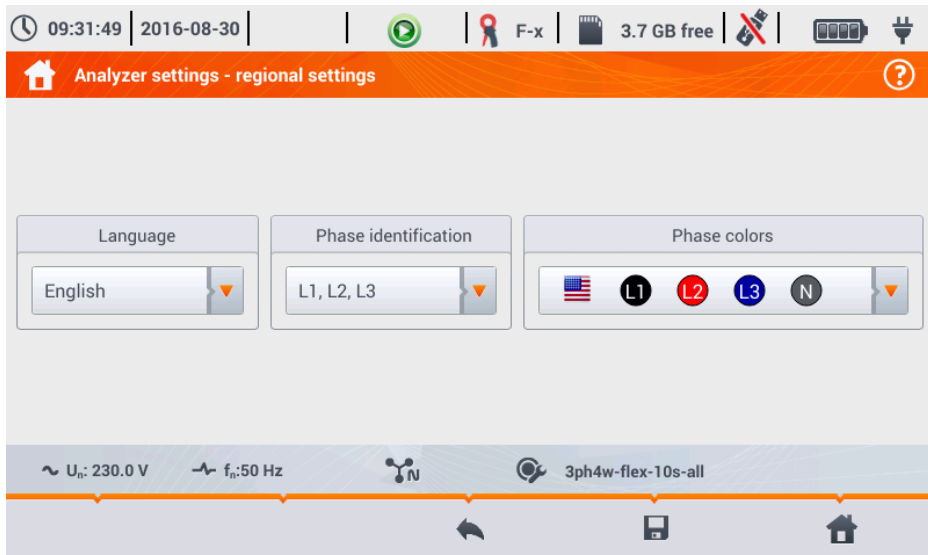

Fig. 16. Analyzer settings - Regional settings.
- **REGIONAL SETTINGS** – on this screen (Fig. 16) you may select: